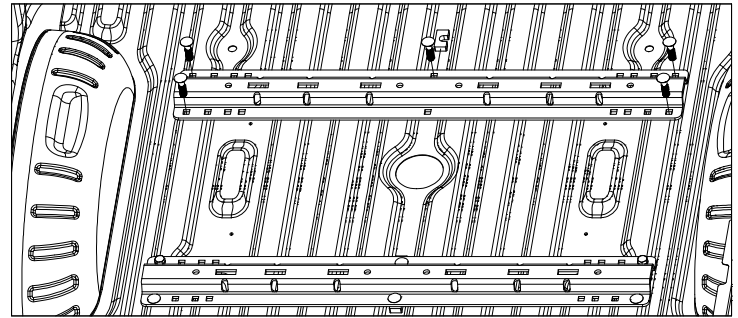

Figure E3: View looking into truck bed from rear of truck.
- 3. Install forward mounting rail.** Re-position the forward mounting rail over the drilled 9/16" holes in the bed. Install a 1/2" carriage bolt through the mounting rail into each of the five drilled holes, as shown in Figure E3. Place a U-shaped spacer under the center carriage bolt.